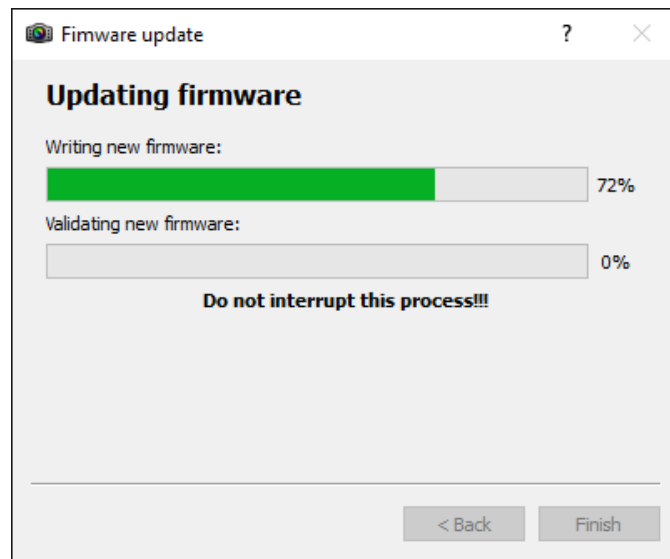

Figure 4 : Firmware Update process window
4. The next window displays the initiated firmware update. The firmware update process displayed in the first progress bar and the firmware validation displayed in the second, as shown in Figure 4.